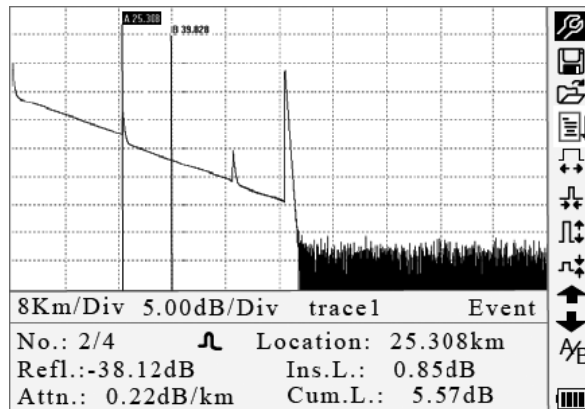
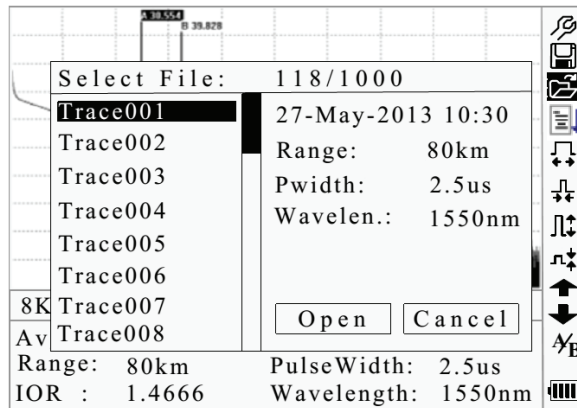

Figure 4-4. Trace Measurement
Figure 4-7. Browse Saved Traces
*Note: After a certain period of time, the trace displays on the GUI. The trace in the figure below is a trace during measurement, which will be refreshed for every certain period of time to demonstrate the whole process in realtime. But at the end of measurement the trace will be complete, as shown in Figure 4-4.*
Under GUI (Figure 4-4) press  and the items in the information window will display in this order: measurement parameters → analysis information → events list → marker A/B information → fiber information → measurement parameters.
Under GUI (Figure 4-4) press  until the events list information appears in the information window.
Under GUI (Figure 4-4) use  and  to highlight A/B, and then press Enter to switch between marker A/B.
Under GUI (Figure 4-4) press **↩** to switch information window to marker A/B information.
1. Under GUI (Figure 4-4) use **▲** and **▼** to highlight **↔**, and then press Enter to zoom out the trace horizontally.
Under GUI (Figure 4-4) use **▲** and **▼** to highlight **↔**, and then press Enter to zoom out the trace vertically.
1. Under GUI (Figure 4-4) use **▲** and **▼** to highlight **↕**, and then press Enter to zoom out the trace vertically.
Under GUI (Figure 4-4) use **▲** and **▼** to highlight **↕**, and then press Enter to zoom in the trace vertically.
1. Under GUI (Figure 4-4) use **▲** and **▼** to highlight **💾**, and then press Enter to enter (Figure 4-6).
1. Under GUI (Figure 4-4) use ▲ and ▼ to highlight , and then press Enter to confirm (Figure 4-7).